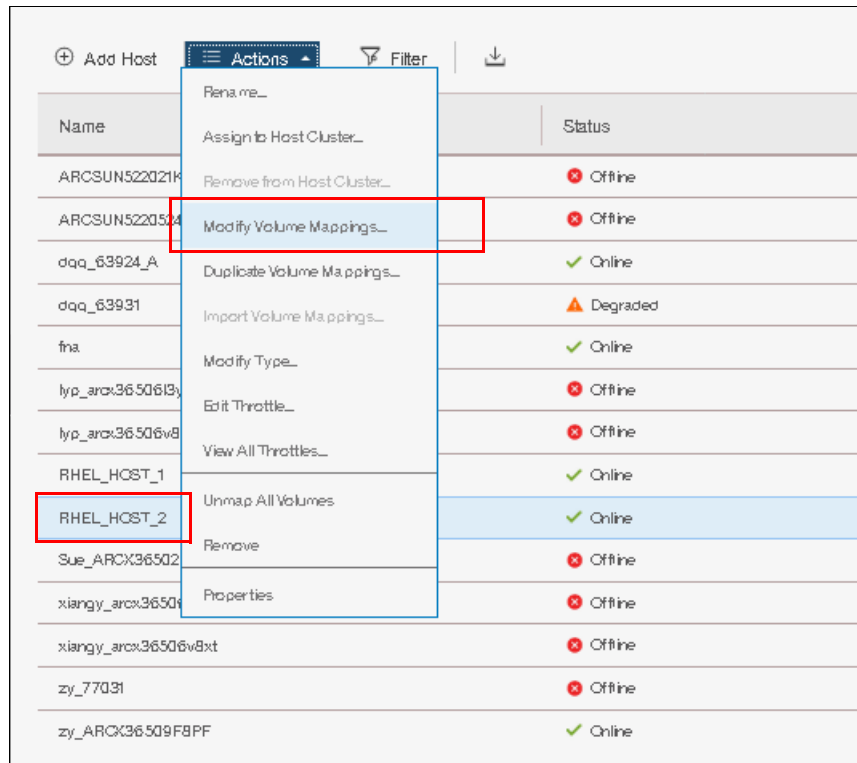

Figure 8-11 Action for the selected host
- From the right hand side pane, select the host for which you want to unmap a volume, and then click Action as shown in Figure 8-11.